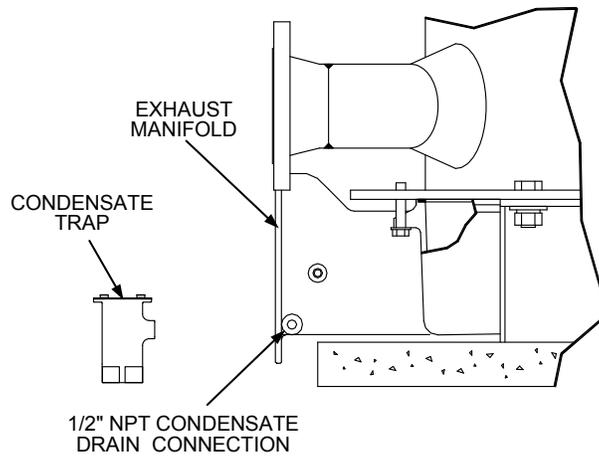

Figure 11. Exhaust Manifold Condensate Drain Location
7. Check the condensate drain port on the exhaust manifold (Figure 11) to ensure it is clear of blockage.